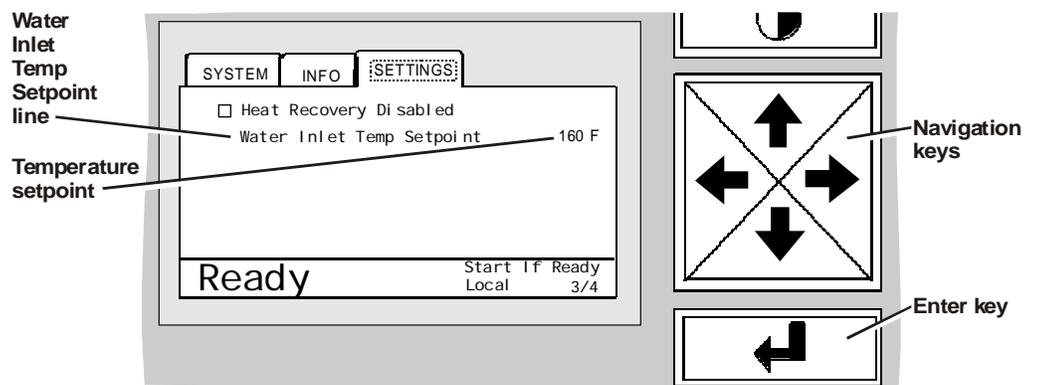

Figure 30. Water inlet temperature setpoint in settings folder
- 3 If the Settings folder (Figure 30) is not visible, display it by pressing the right or left navigation key.
- 4 Press the down navigation key until settings page 3 appears (Figure 30).